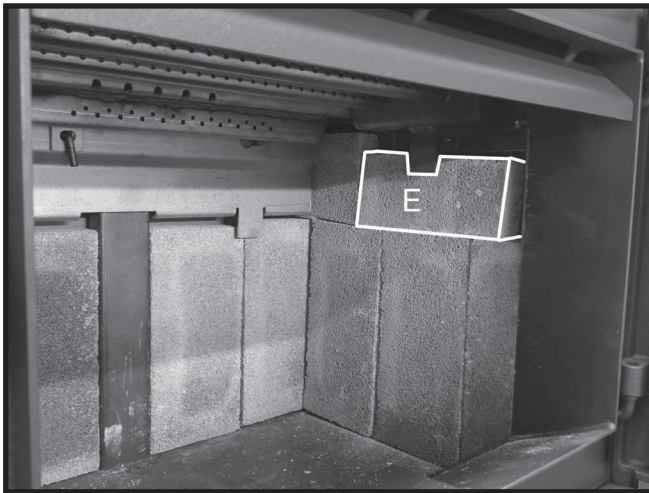
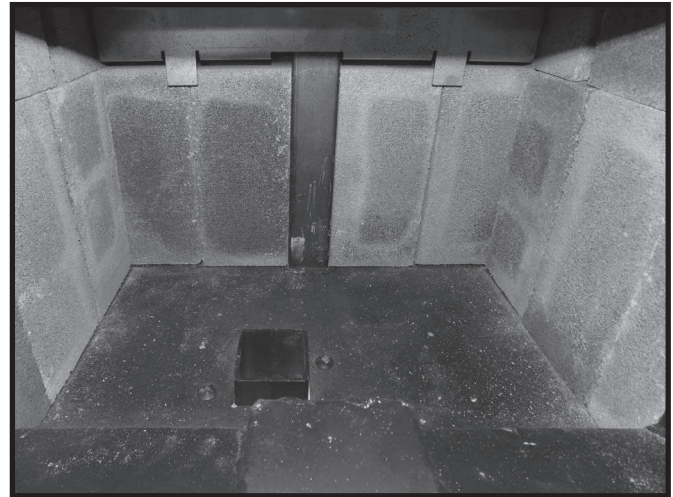

Figure 21: Final side wall firebrick in position.
Figure 22: Firebox floor with ash dump.
7. Slide an "E" firebrick under the side wall brick rail tab and rest on top of the three previously placed side wall firebricks (Figure 21). Repeat steps 4-7 on the other side (Figure 22).